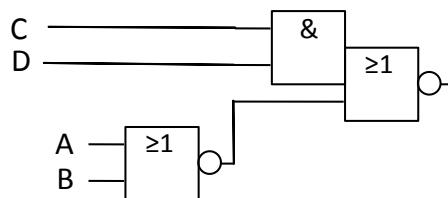

Figure 4: Another circuit made up from the same two logic gates.
- Consider the slightly different circuit in Figure 4 with four inputs. Calculate the logical effort for input A , g_A and the corresponding parasitic delay p , for this circuit. (4 p)